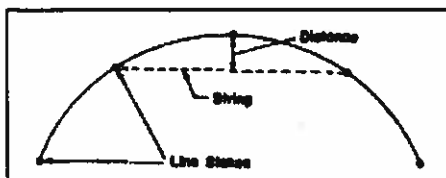

Figure 4. Method of determining curvature for contour fences. Use "distance" measurement to determine proper post placement.
2. Select any three adjacent stakes on the curve and stretch a string between the first and third stake (Figure 4).